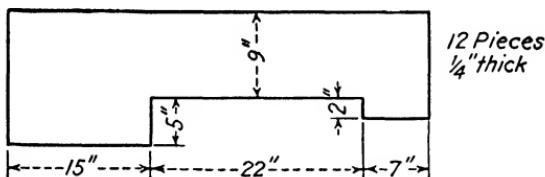

Fig. 305.
- 34.** Find the weight of one dozen copper plates cut according to the dimensions shown in Fig. 305.